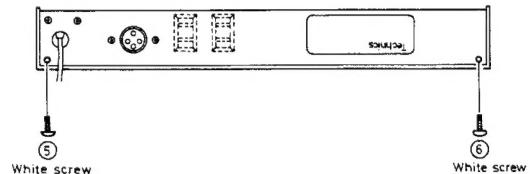

Fig. 7
4. Remove 12 setscrews (⑦~⑯, in Fig. 7) which secure printed circuit board, chassis and power supply box.